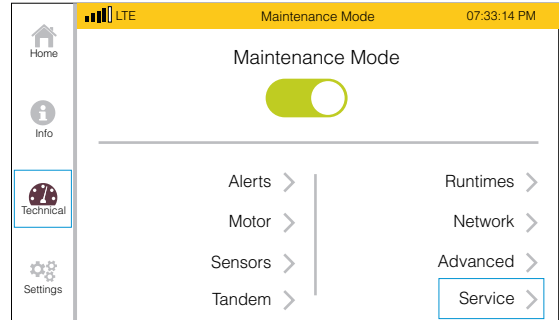

FIGURE 48. PRESS SERVICE >
6. On the Technical screen press **SERVICE >** (FIGURE 48).